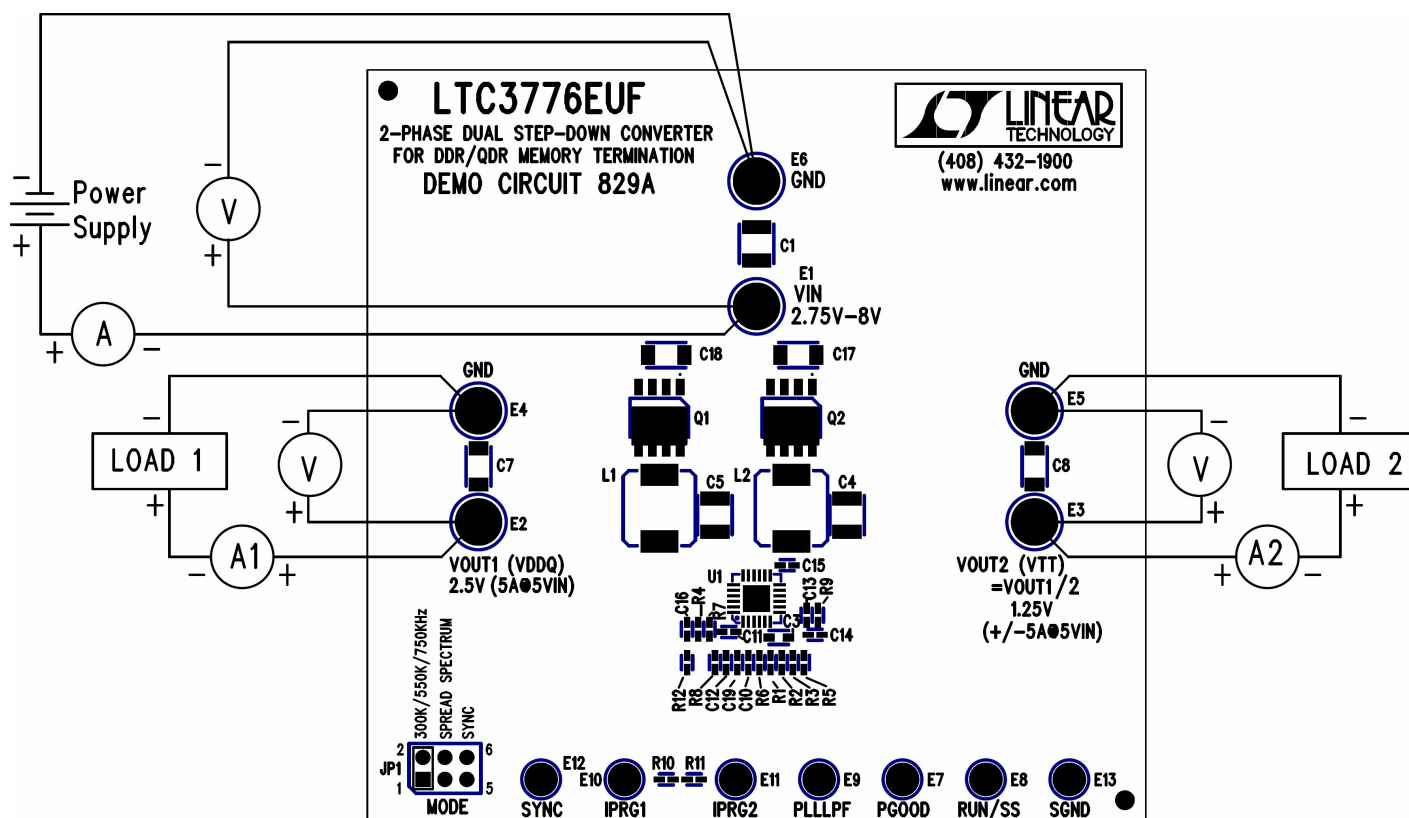

Figure 1. Proper Measurement Equipment Setup
Demonstration circuit 829 is easy to set up to evaluate the performance of LTC3776. Refer to Figure 1 for proper measurement equipment setup and follow the procedure below:
2. Connect the 2.5V load (Load 1 in Figure 1) between Vout1 and GND; connect the 1.25V load (Load 2 in Figure 1) between Vout2 and GND. (Initial loads: 0 A)